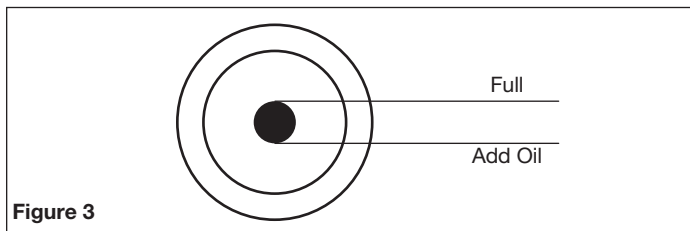

Figure 3
2. Remove pump fill plug and fill pump with 14.1 oz. of oil. Use full synthetic, non-detergent air compressor oil. Additives in regular oil can cause valve deposits and reduce pump life. For pumps with an oil sight glass, oil level can be monitored and maintained as shown in Figure 3.